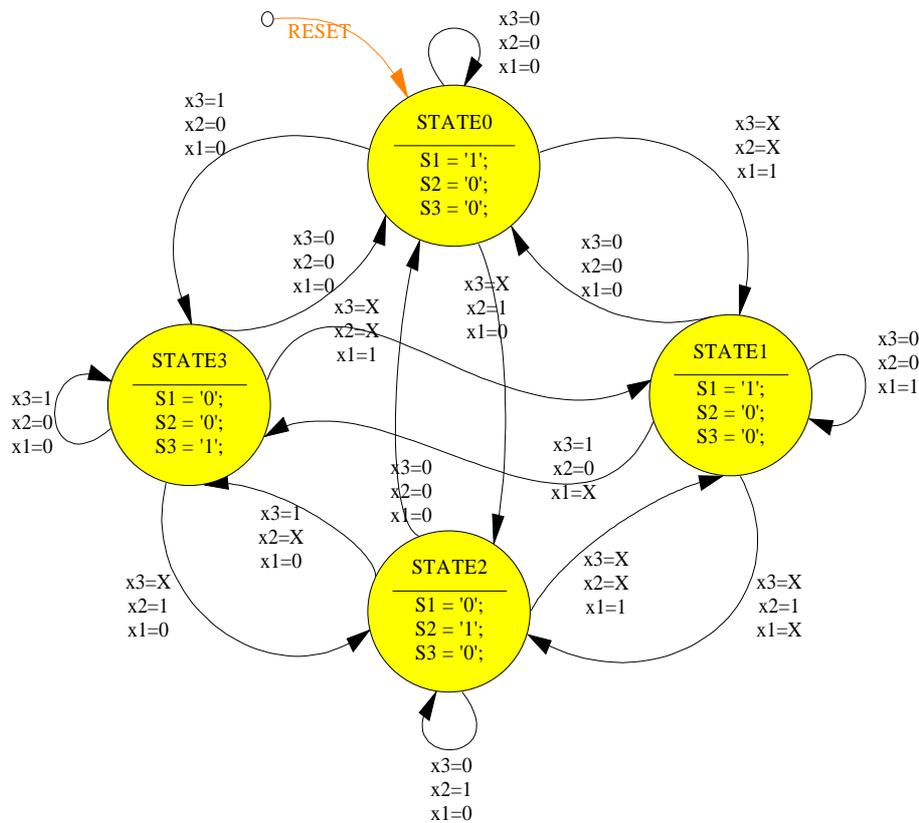

Figure 3: State Diagram for Traffic Light FSM
Based on the above specifications, the state diagram of this Finite State Machine has been provided in Figure 3 below. Your objective in this experiment is to implement the functionality described by this state diagram using Verilog HDL.
4. In the *Traffic_Controller.v* file, implement a module named *Traffic_Controller* which will implement the functionality specified by the state diagram of Figure 3.
- f. Another for the Output Logic, which generates the signals *S1*, *S2*, and *S3* based on the Current State only (see Figure 3 above).